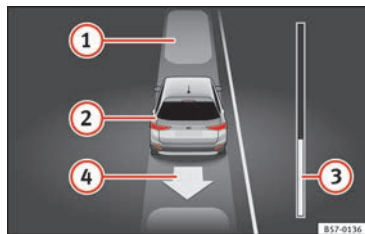

Fig. 214 On the instrument panel display: exiting a parallel parking space.
Key to the **Fig. 214**:
The progress bar » Fig. 214 ③ indicates the distance to cover » page 233.